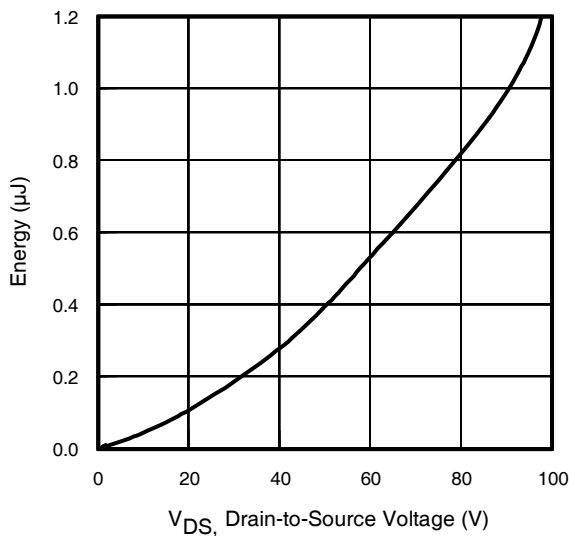

Fig 11. Typical C_{OSS} Stored Energy
| C _{oss} eff. (ER) | Effective Output Capacitance (Energy Related) ⑥ | — | 260 | — | | V _{GS} = 0V, V _{DS} = 0V to 80V ⑥, See Fig.11 |